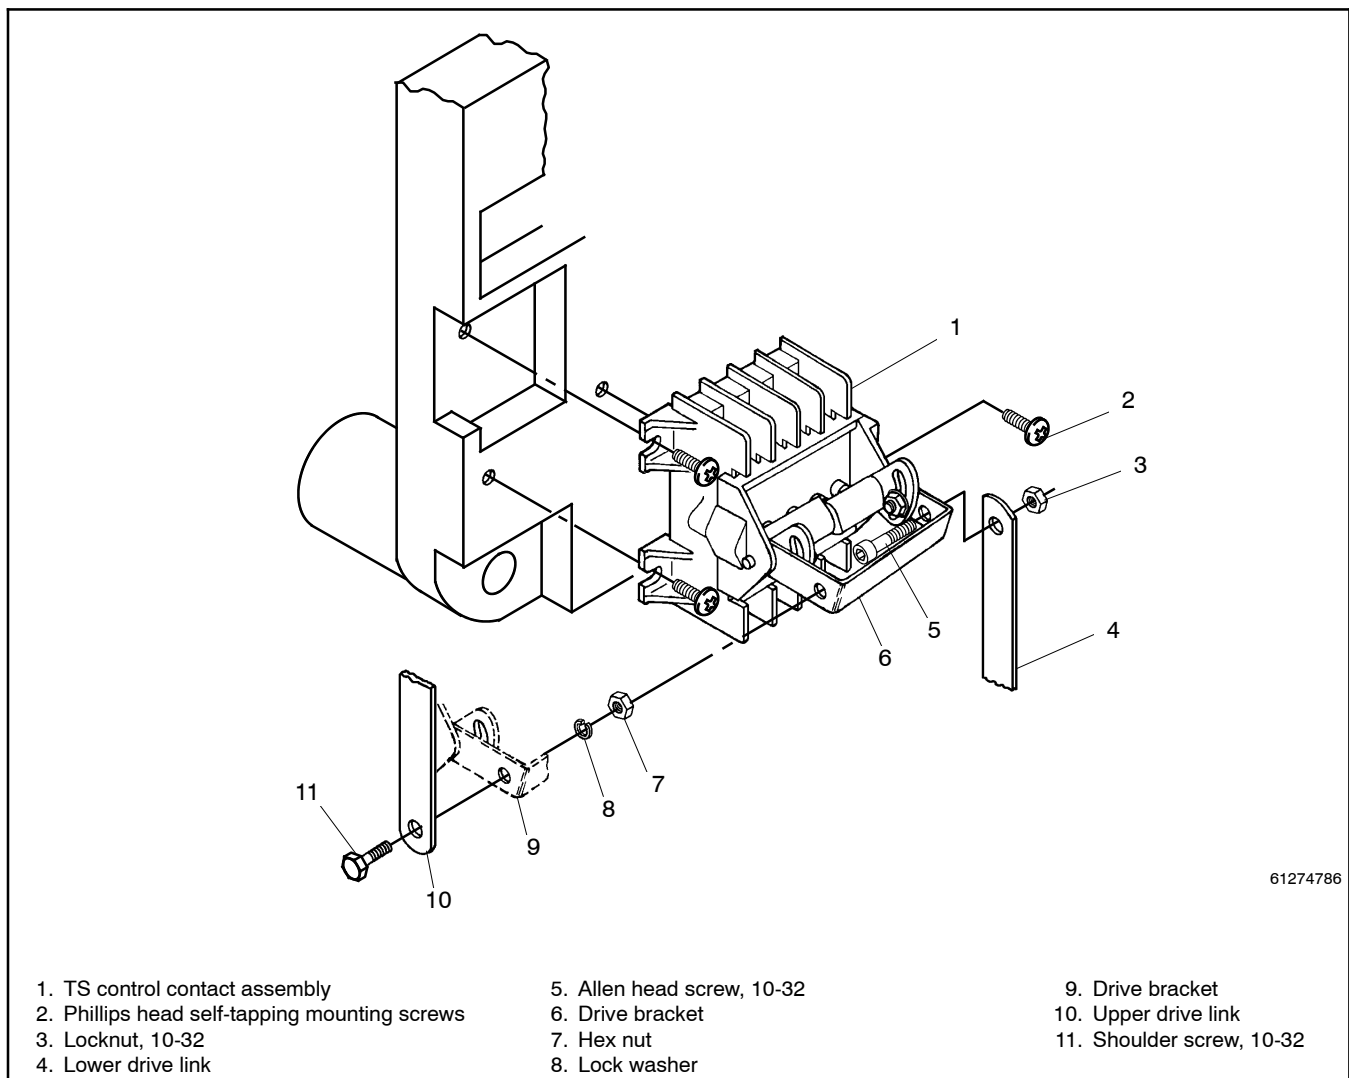

Figure 6-14 TS Control Contact Assembly Replacement
2. Refer to Figure 6-14. Disconnect the upper drive link by removing the #10-32 shoulder screw, lock washer, and hex nut from the left side of the drive bracket on the control contact assembly. Then reinstall the hardware onto the loose linkage for safekeeping.